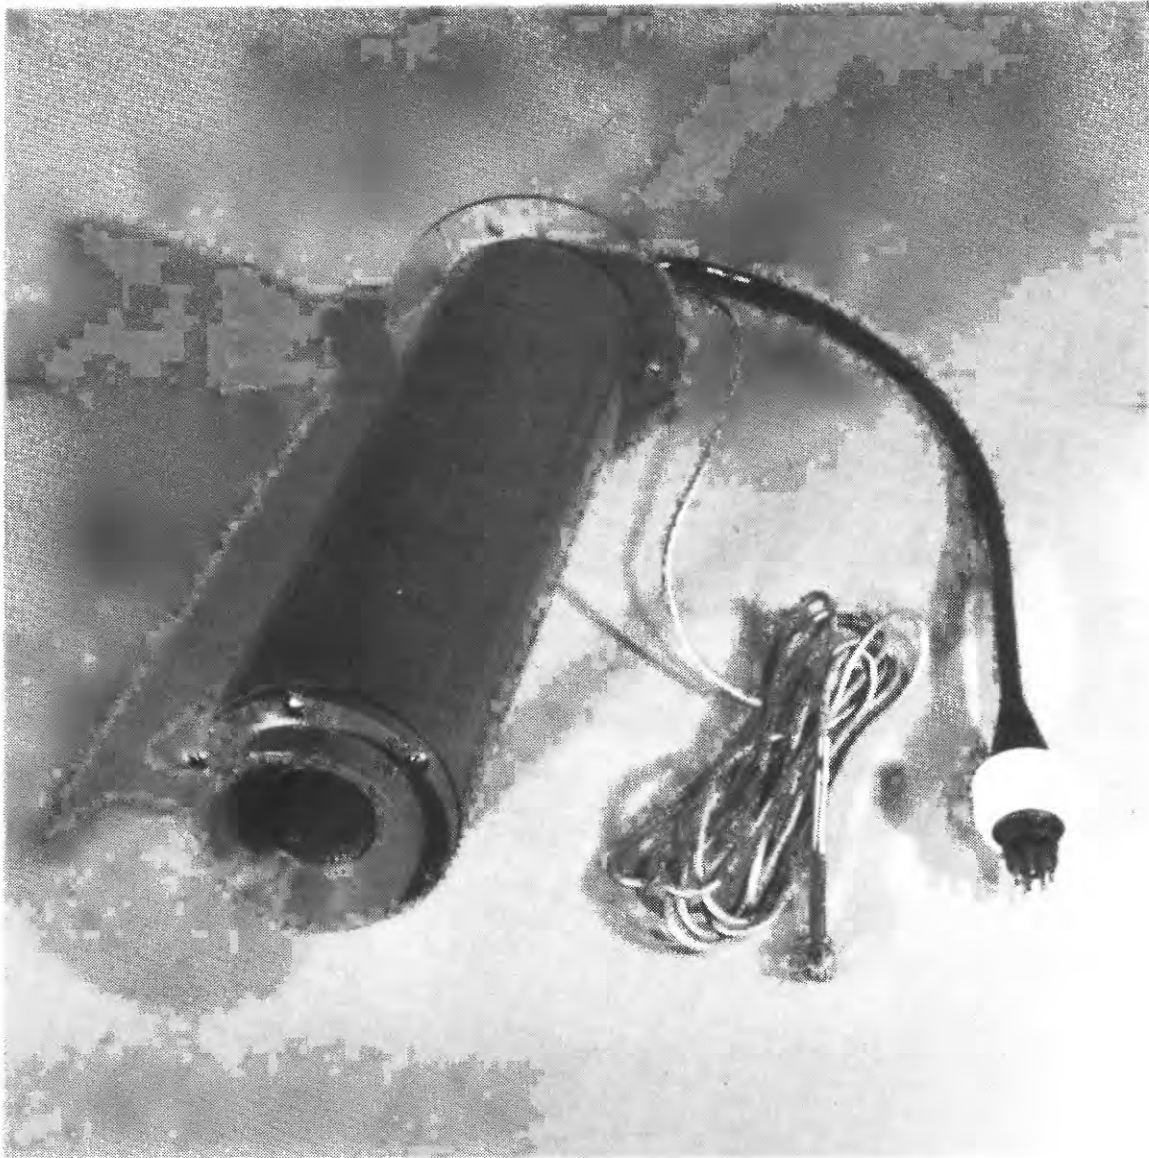

Figure 20.--Temperature-compensated Ultrasonic Ranger.
- Ultrasonic Ranger with temperature sensor (fig. 20).